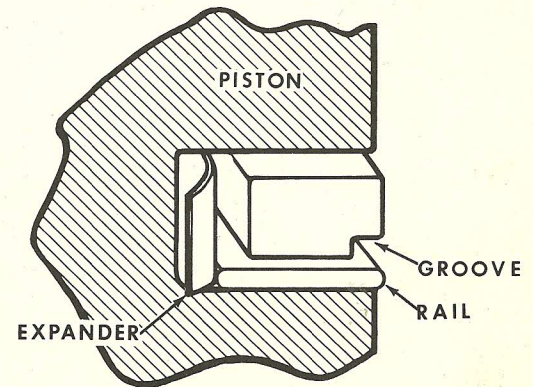

Figure M-33
4. Install the compression ring expander in the second or middle groove of the piston. Then install the chrome steel rail. Install the cast iron ring above rail with the scraper groove down, Figure M-33.